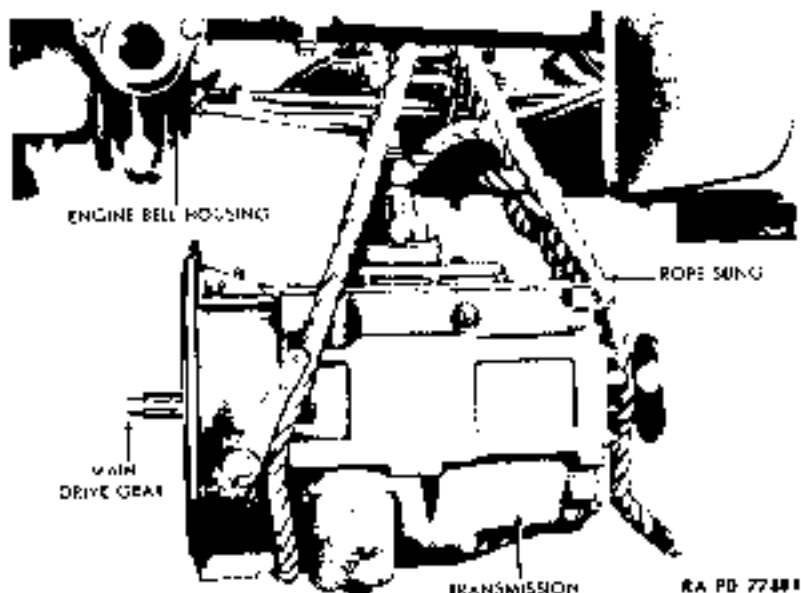

Figure 54 - Removing Transmission
m. **Remove Transmission (fig. 54).** Attach rope sling to transmission. Attach chain fall or other suitable lifting apparatus to sling, and pull up just enough to take weight of transmission from bell housing. Remove remaining eight cap screws and lock washers (two already removed) which secure transmission to bell housing.
a. **Position Transmission to Clutch Bell Housing (fig. 54).** Slide transmission under vehicle. Attach rope sling, and raise to position about a foot behind bell housing with chain fall and rope sling. Push transmission forward to position against bell housing. Install 8 of the 10 cap screws and lock washers which secure transmission to housing. Remove rope sling and lifting apparatus.